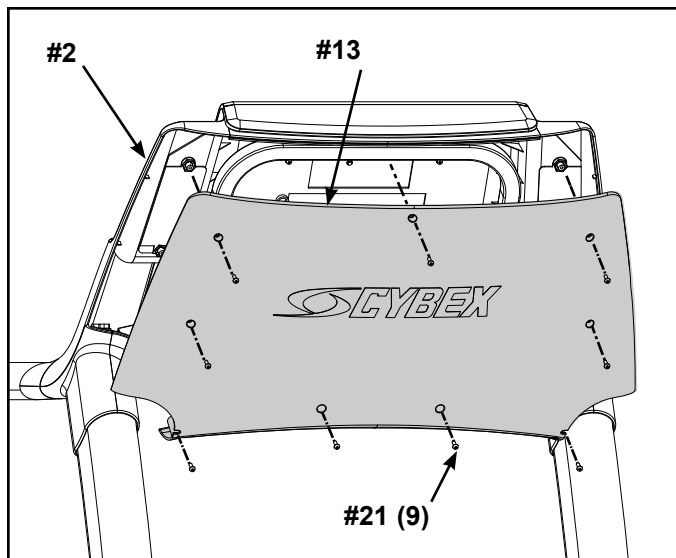

Figure 8
- A. Locate the back console cover (#13) and nine screws 8/16 x .50" (#21). See Figure 8.
- B. While being sure not to pinch any cables, use a Phillips screwdriver to secure the nine screws 8/16 x .50" (#21) that hold the back console cover (#13) to the console assembly (#2). See Figure 8.